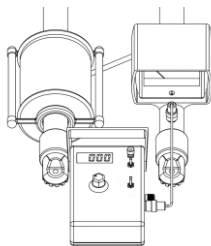

Figure 8 - Connection for galvanometer scouting
- Connect the gauge to Fase Tester's two-pole terminal using the two-pole cable (see figure 8);